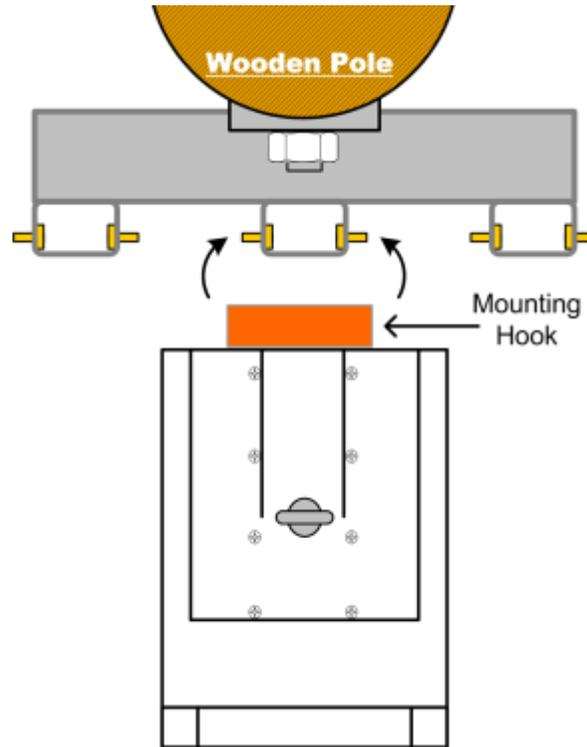

Figure 3-21. Single GX Installation (Mounted in Middle of Bracket) – Top View
*Note: For Single GX unit installations – unit is mounted onto middle of bracket (Figure 3-21);